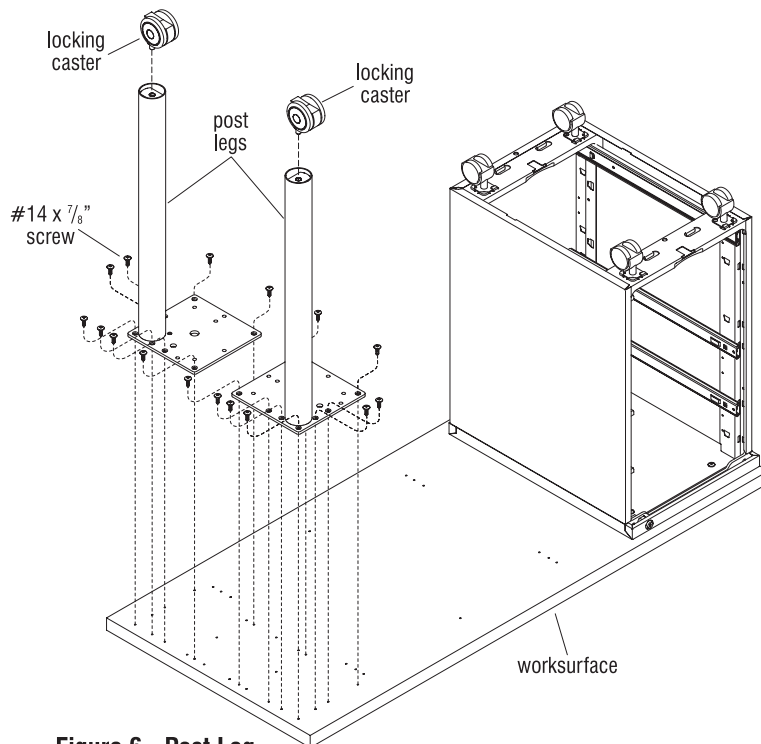

Figure 6 - Post Leg
13. If post legs are specified, position the legs as illustrated to the two corner ends of the worksurface opposite of the pedestal. Align the mounting holes of the legs to the pre-drilled holes of the worksurface and secure using eight #14 x $\frac{7}{8}$ " screws per leg. Use a $\frac{3}{4}$ " open end wrench to tighten locking casters to the foot of each leg (Figure 6).
16. Next, position the laminate modesty panel with brackets at the edge of the worksurface opposite of the user side. Align the mounting holes of the modesty panel brackets to the four pre-drilled holes of the worksurface and secure using two #14 x 7/8" screws per bracket (Figure 6).